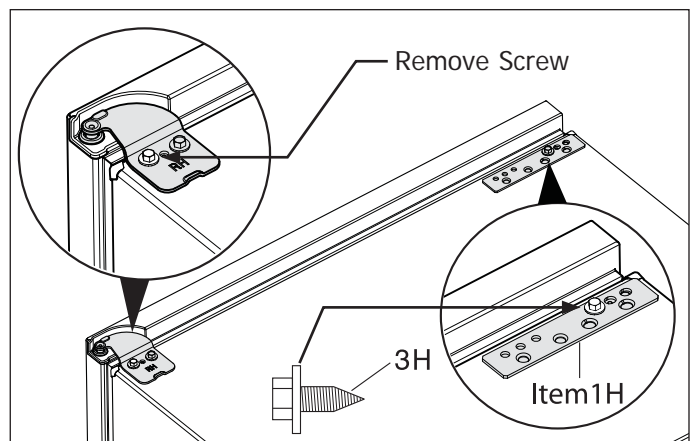

Figure 2-20.
6. Remove outer screw from top hinge using a 3/8" socket driver or wrench, and save for later use. Install mounting bracket with one screw mounted to inside hole using a 3/8" socket. (See Figure 2-20).